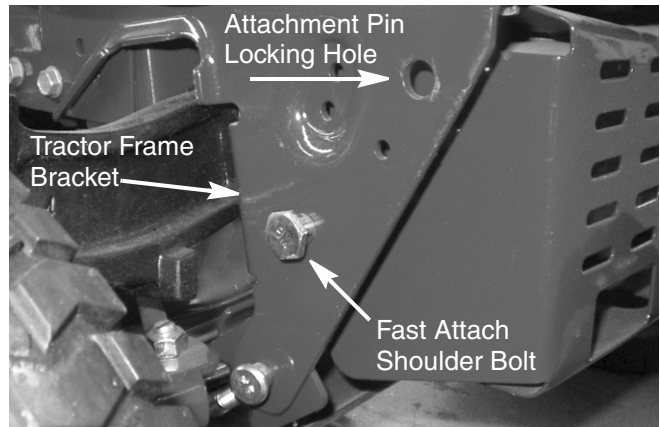

FIGURE 2
4. Locate the FastAttach shoulder bolts that are installed on the left and right tractor frame brackets. See Figure 2.
7. With the shoulder bolts installed as shown in Figure 2, attempt to position the Hitch Assembly onto the tractor frame brackets. If the Hitch Assembly slides on easily and sets on the shoulder bolts, align the locking holes in the Hitch Assembly with holes in the frame brackets and set attachment pins in the holes. Jump to Step 11.